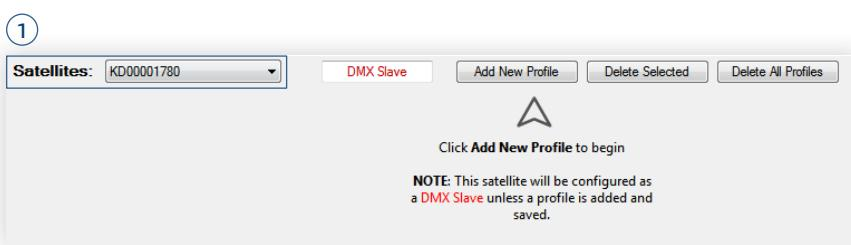

fig. 141
- 1 Choose an N3 Satellite to configure. To do this, use the dropdown after Satellites:, as in fig. 141.